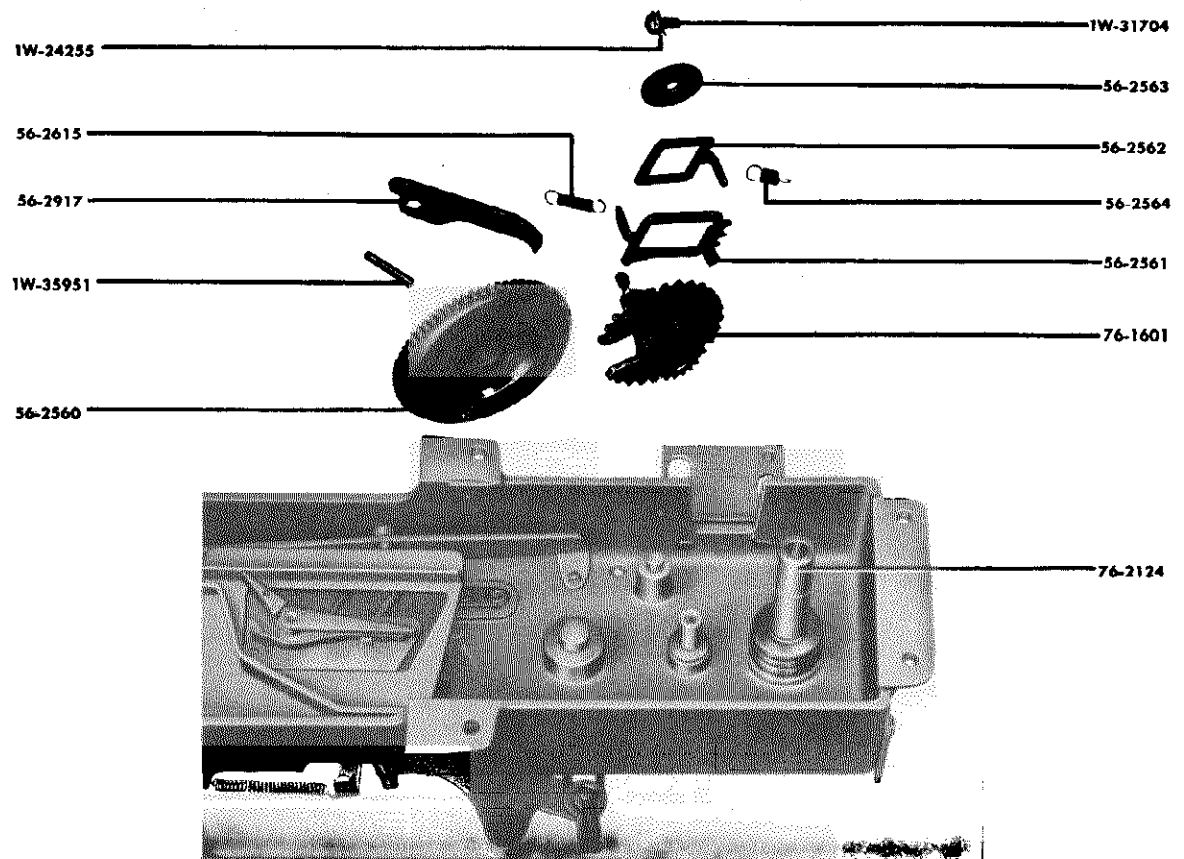

Figure 29—PARTS OF MAIN-GEAR AND INTERMEDIATE-GEAR ASSEMBLIES, UNDERSIDE VIEW.
e. Lift out intermediate-gear assembly. Figure 29 shows the underside of the parts in the assembly.
- Drive out tapered pin 1W-35951 in main gear and lift out main gear. Figure 29 shows the underside of the main gear.